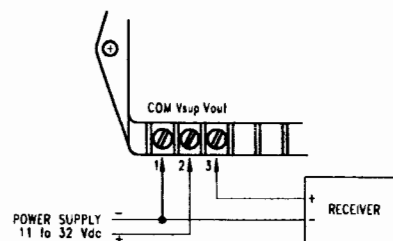
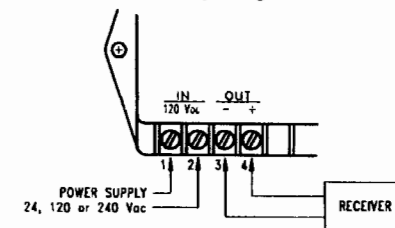

Figure 1
Figure 2
A. Series T10 or T20- With the voltmeter connected across the signal terminals (see Figure 1 or Figure 2, respectively), apply full pressure to the instrument and adjust the Span potentiometer R1, until the output reading is 5.00V (if 0-5V Span) or 10.00V (if 0-10V Span).
There are three terminals for electrical connections (see Fig. 1)
The power supply leads are connected to the two leftmost terminals (terminals 1 and 2) on the terminal strip (see Figure 2). The output signal is accessed across terminals 3 and 4, the rightmost terminals, labeled "-" and "+" (see Figure 2). The signal output is transformer-isolated from the power supply. The output signal is totally floating and either the "+" or the "-" terminal may be grounded.